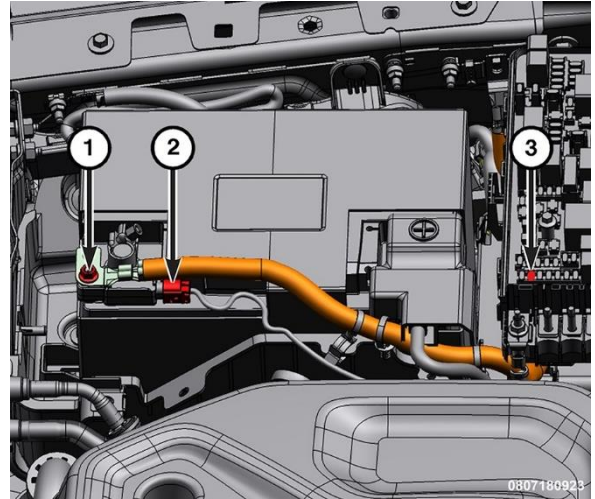

Figure 2 – 12-Volt Battery
7. Disconnect the IBS wire harness connector (2). Remove and isolate the battery negative cable (1) using Covers, HEV Battery Terminal 2035100082 (Figure 2).
8. Remove the F09 (5 amp) fuse (3) from the Power Distribution Center (PDC) (Figure 2).